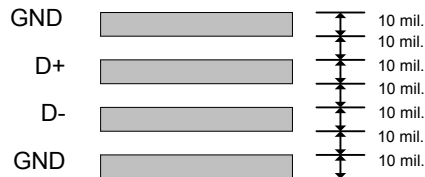

Figure B.5 Suggested Minimum Track Width and Spacing
3. The Remote Diode + and Remote Diode - tracks should be kept close together, in parallel with grounded guard tracks on each side. Using wide tracks will help to minimize inductance and reduce noise pickup. A 10 mil track minimum width and spacing is recommended. See Figure B.5, "Suggested Minimum Track Width and Spacing".